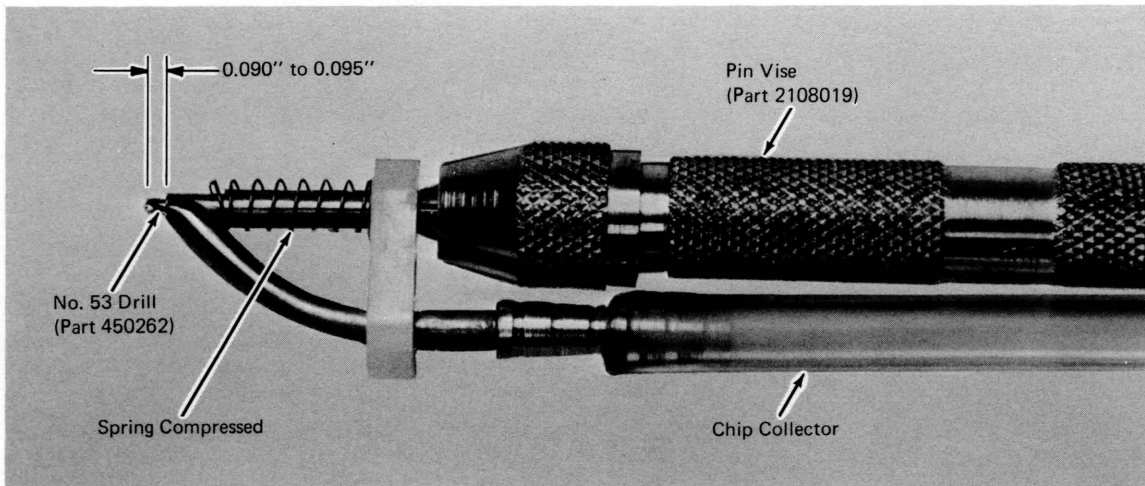

Figure 2-36. Chip Collector with No. 53 Drill
6. Insert the No. 53 drill (part 540262) into the spring-loaded tubing of the probe side chip collector (part 452546). Hold the vacuum tube in one hand, and press the spring by pushing on the pin vise with the other hand until 0.090 to 0.095 inch of the drill is exposed (Figure 2-36).
4. Insert the drill into the spring-loaded tubing of the probe side chip collector (part 452546). Hold the vacuum tube in one hand, and press the spring by pushing on the pin vise with the other hand until 0.090 to 0.095 inch of the drill is exposed (Figure 2-36).